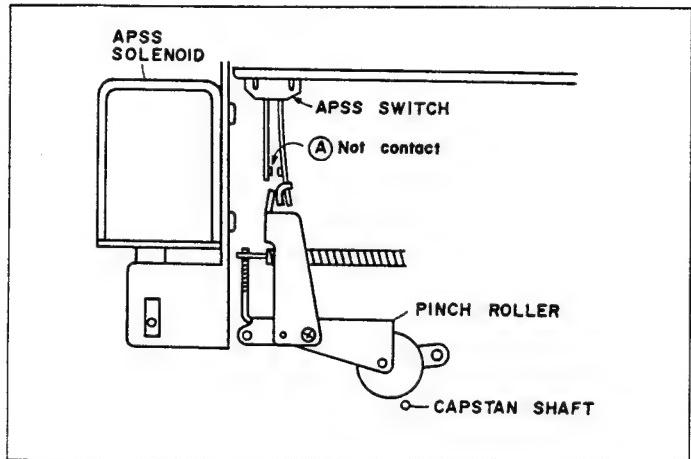

Figure 22
(Refer to Figure 22)
- (1) Set the unit in play mode.
- (2) Adjust the setting position of the APSS switch (SW301) so that the interval **(A)** of Figure 22 will be as specified.